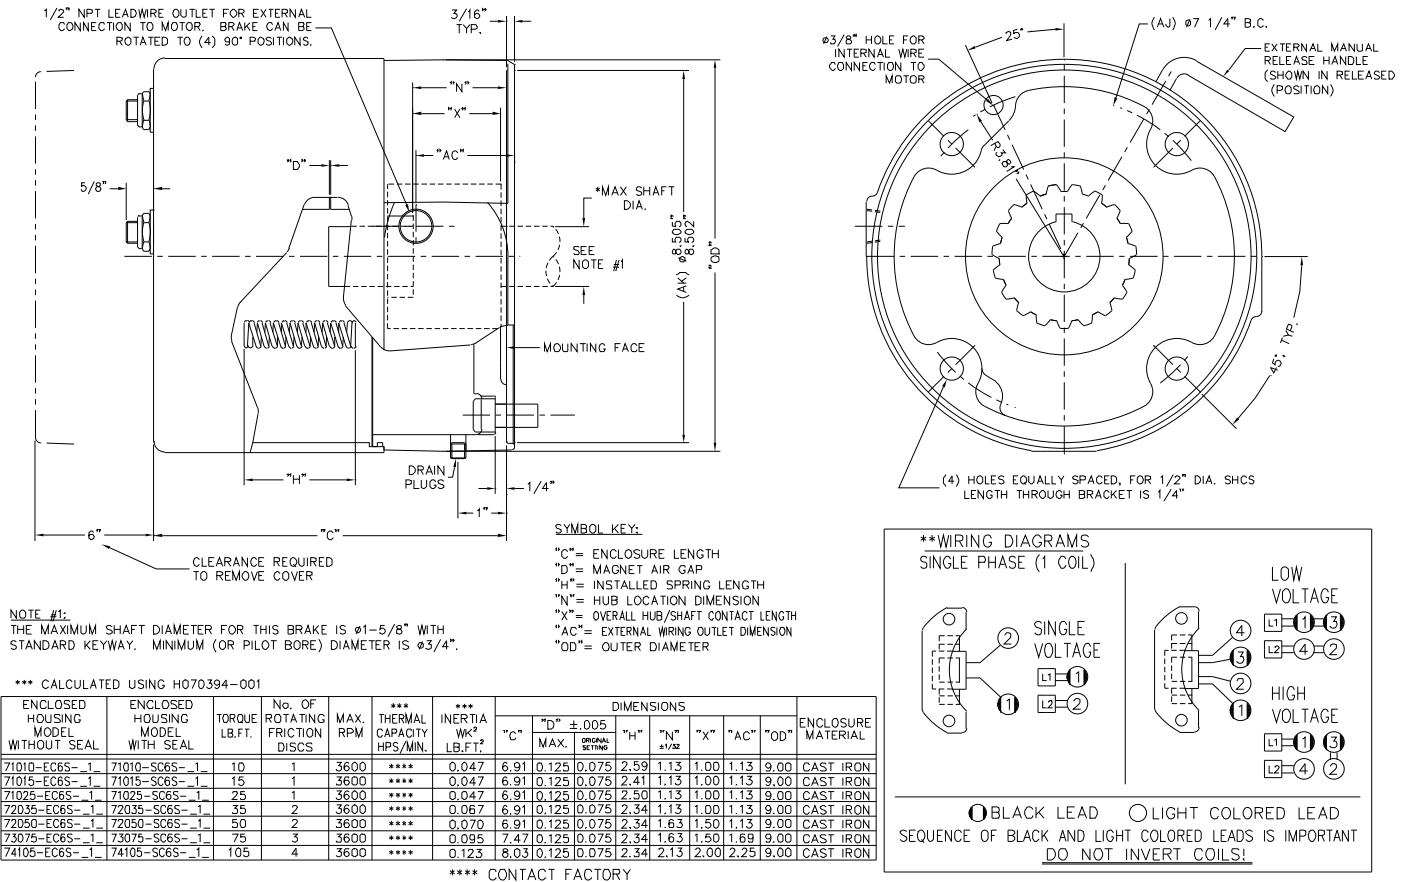

Figure.1 Brake Outline
(See Figures 1, & 2, Table 1)
1. Remove hub (99) from brake and position on motor shaft with key according to dimension "N" per figure 1. Stamped part number on hub should face away from motor. Tighten hub set screws with 18 lb.ft. torque.
2. Remove temporary cover nut and cover (67). Set cover aside. Discard temporary nut.
3. If brake is supplied with a mounting face gasket (91), place gasket onto the brake mounting face.
5. Bolt brake to motor "C" face with four socket head cap screws. See Figure 1 to help in determining proper bolt length. Final bolt thread pitch, length and mounting torque is dependent on the material and depth of the threaded holes in the mounting face.
6. Connect coil leads per appropriate wiring diagram in Figure 1 and replace cover (67).
7. Use provided sealing washers (70) and nylon locking nuts (71) to secure cover (67).